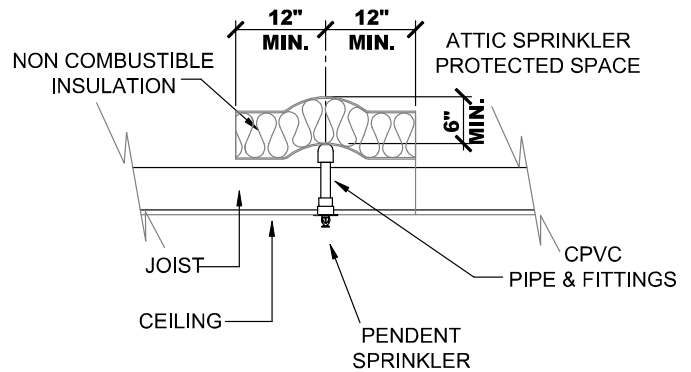

FIGURE 28A
- There must be 6 in. (152.4 mm) of non-combustible insulation covering the horizontal or vertical pipe extending 12". (304.8 mm) on each side away from the centerline of the pipe. Refer to FIGURE 28A.